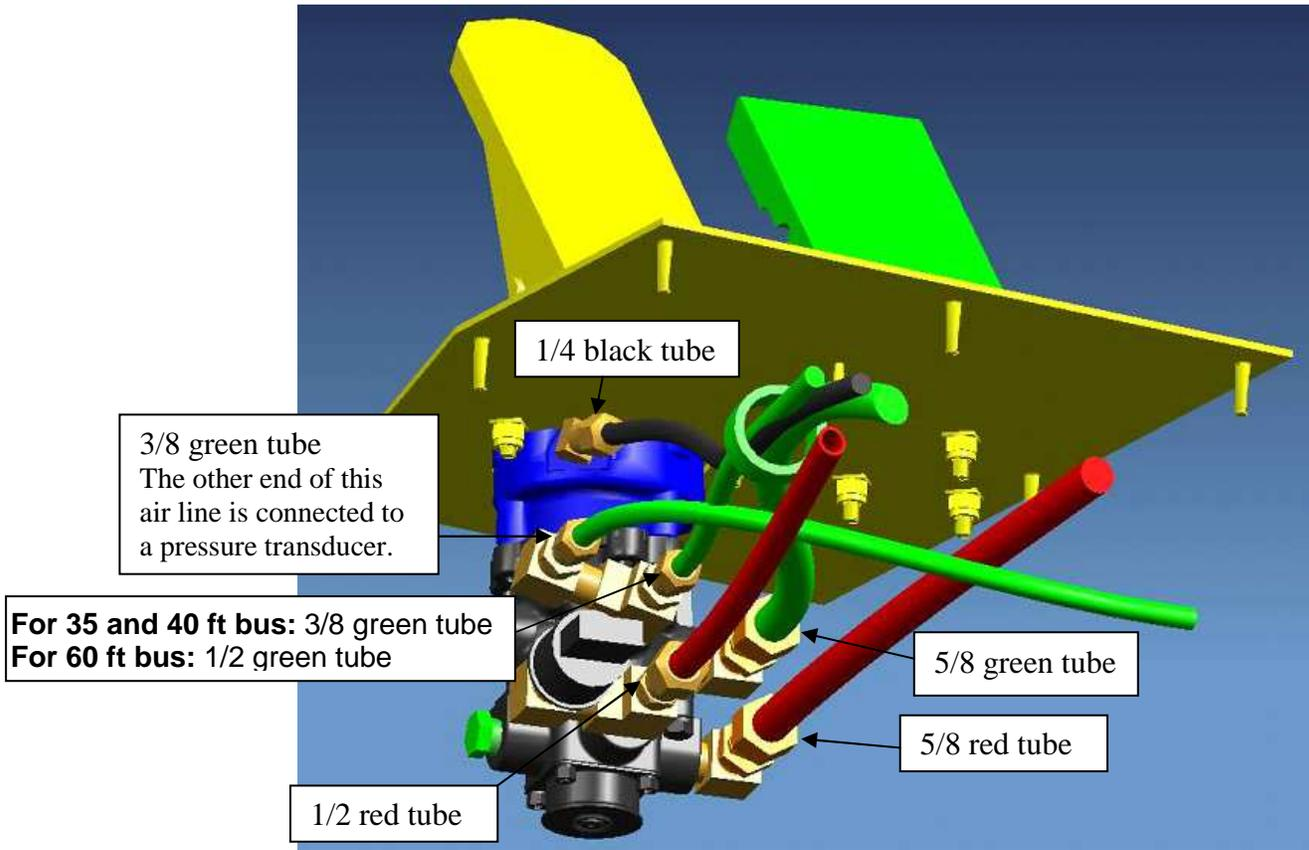

Figure 18: Airline Connections to the E6 and BVA Valves
**NOTE: Double-check the connections with Figure 18.**